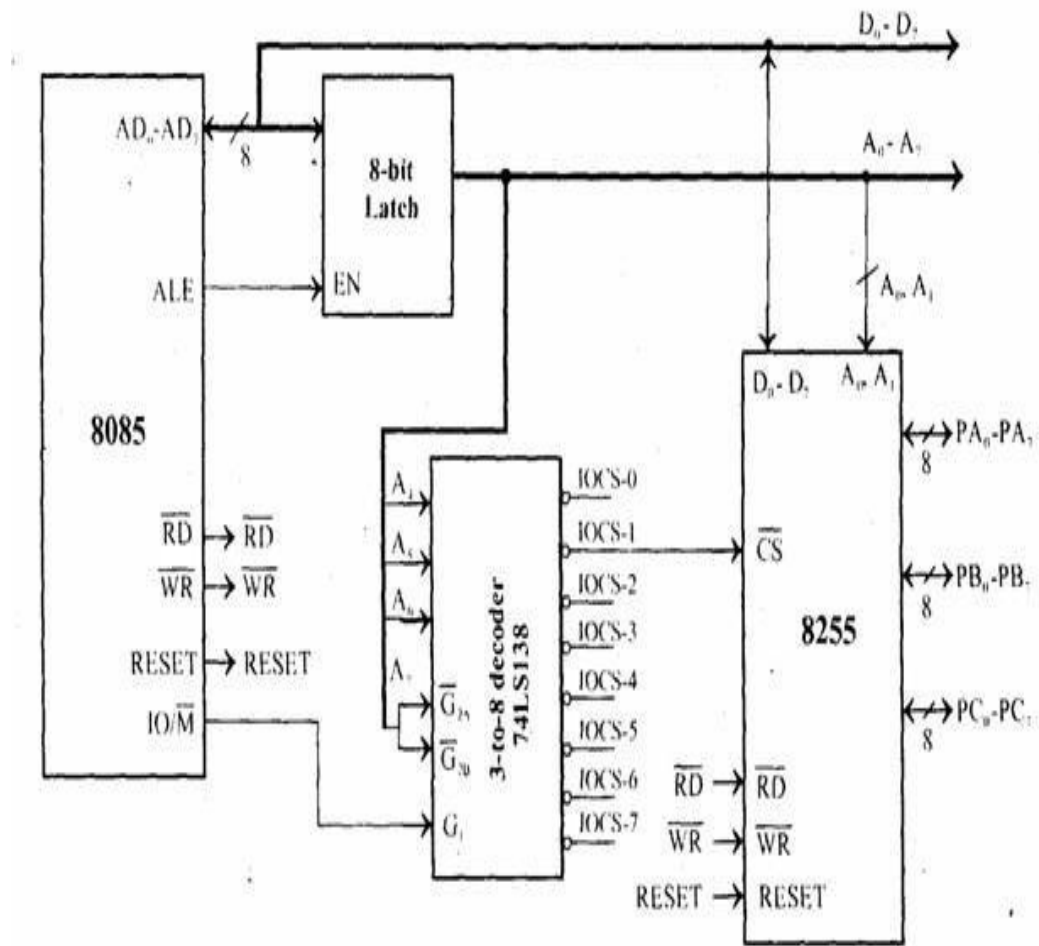

Fig 3.13. Interfacing 8255 with 8085 processor
- The address lines A4, A5 and A6 are decoded to generate eight chip select signals (IOCS-0 to IOCS-7) and in this, the chip select IOCS- 1 is used to select 8255 as shown in Figure 3.13.